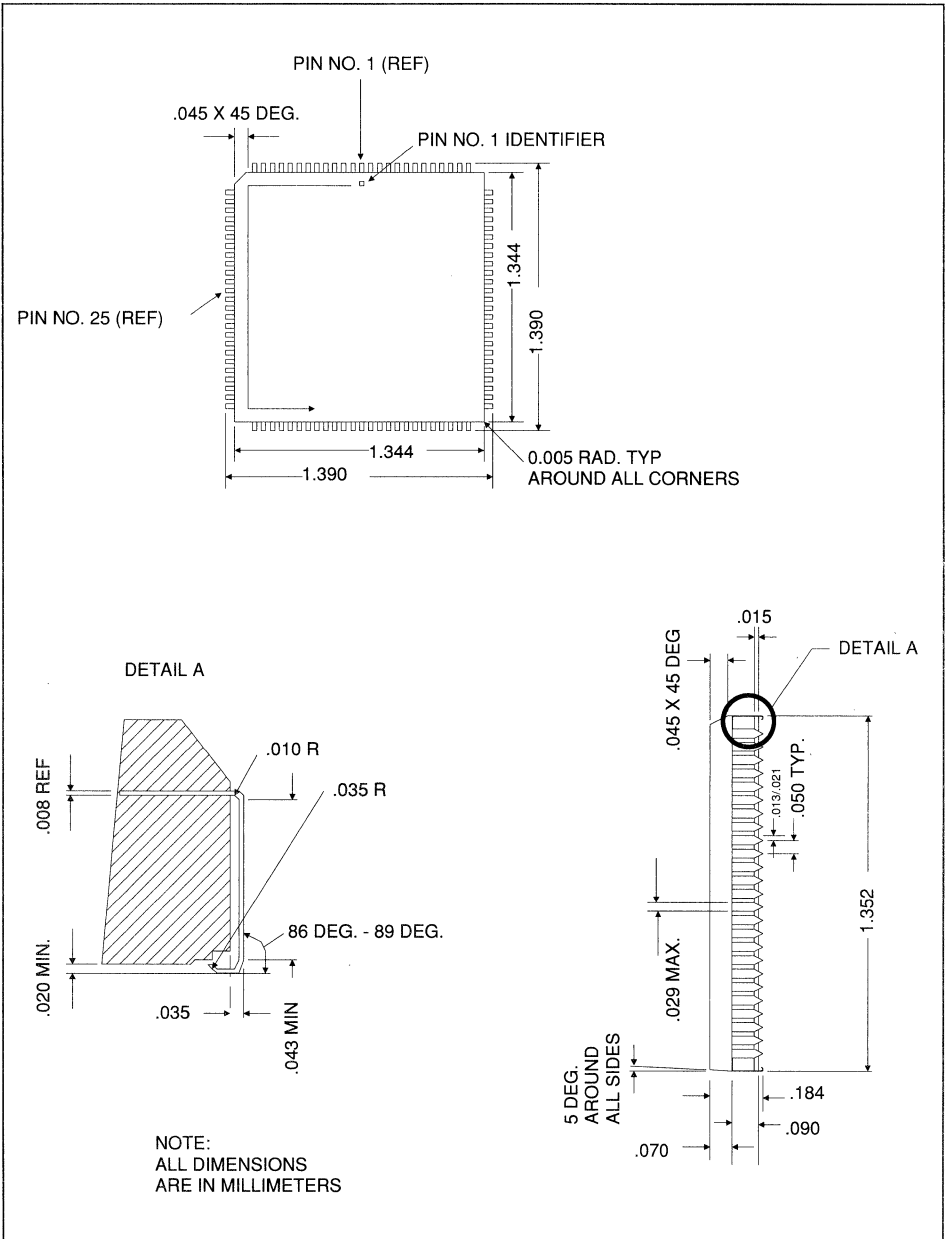

Figure 4. 100-Pin PLCC Packaging Diagram
- * A block diagram of the data bus hardware on the PC AT board is shown in Figure 4. It represents the equivalent 74LSXXX circuitry for the data buffers contained on the board. Signals used in this document are discussed in Table 3.